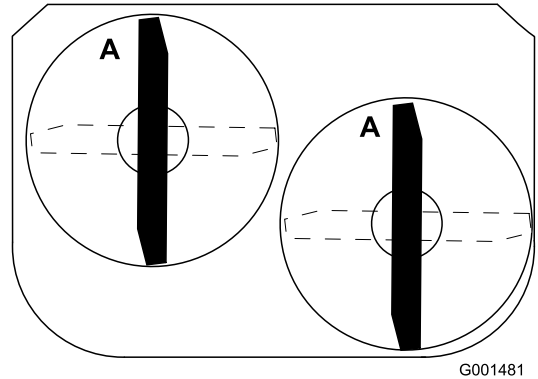

Figure 63
1. Rotate the blades until the ends face forward and backward (Figure 63).